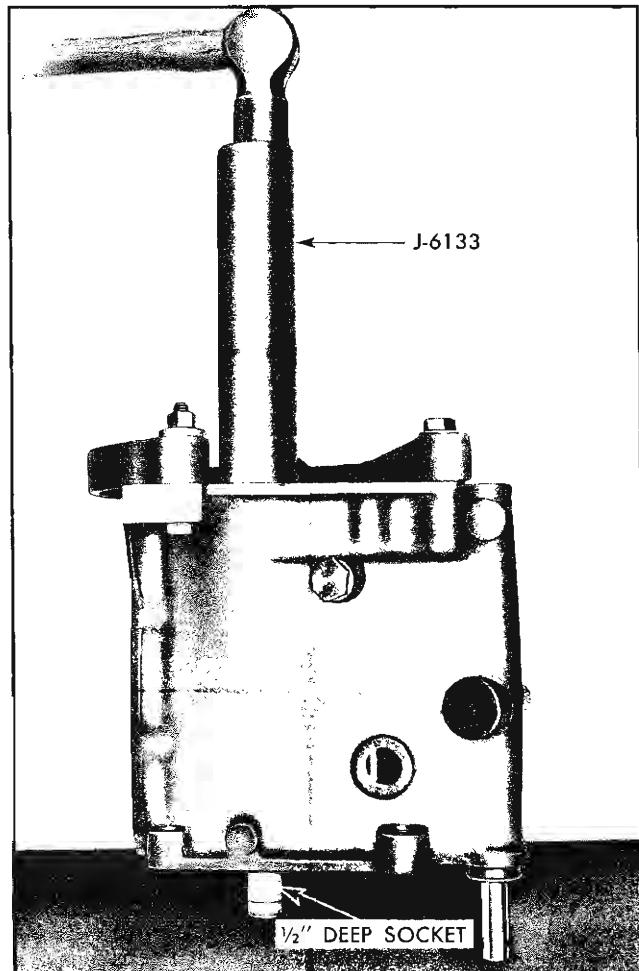

Fig. 7-42 Making Snap Ring Groove Accessible
23. Install $\frac{1}{2}$ " deep socket in clutch gear and continue to drive on mainshaft bearing until the snap ring groove on mainshaft is accessible (Fig. 7-42).